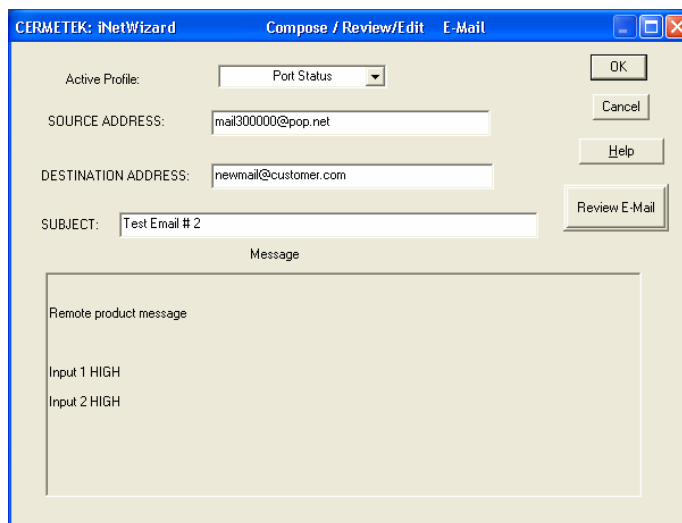

Figure 26. Port Status Compose/Review/Edit Email message after editing per Example 4.
Step 3B. Edit the SUBJECT line. As in Step 2B, highlight the SUBJECT line data and make the character edits. Do not enter <CR> after the required edits as this will cause iNetWizard® to exit the COMPOSE/REVIEW/EDIT window after executing the specified SUBJECT line change(s). See Figure 26.